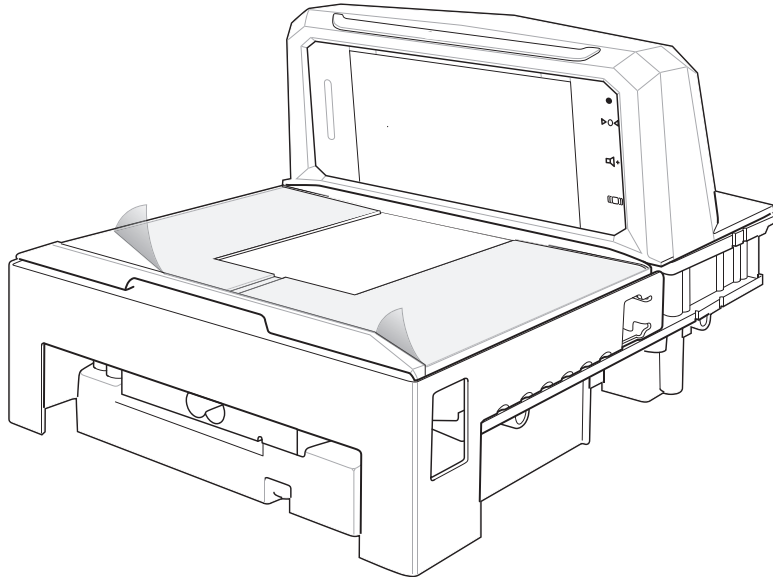

Figure 3-4 *Platter Protector*
- For added protection during shipment, the MP6000 platter is covered with a tight fitting layer of plastic as shown in Figure 3-4. This plastic layer must be removed before placing the unit into service. (In the case of a scale model, just before scale calibration; and, in case of a non-scale model, as the final step of installation)